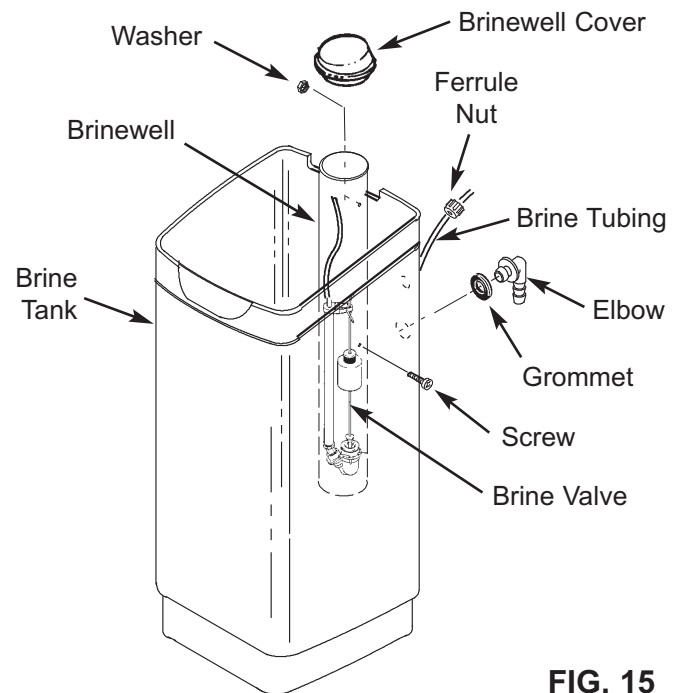

FIG. 15
- a. Position the brinewell in the recess at the bottom of the brine tank and attach it to the side with the screw and washer provided (See Figure 15).
- b. Lower the brine valve into the brinewell until it is sitting on the bottom. Route the brine tube out of the brinewell through the top slot, and put the brinewell cover into place (See Figure 15).